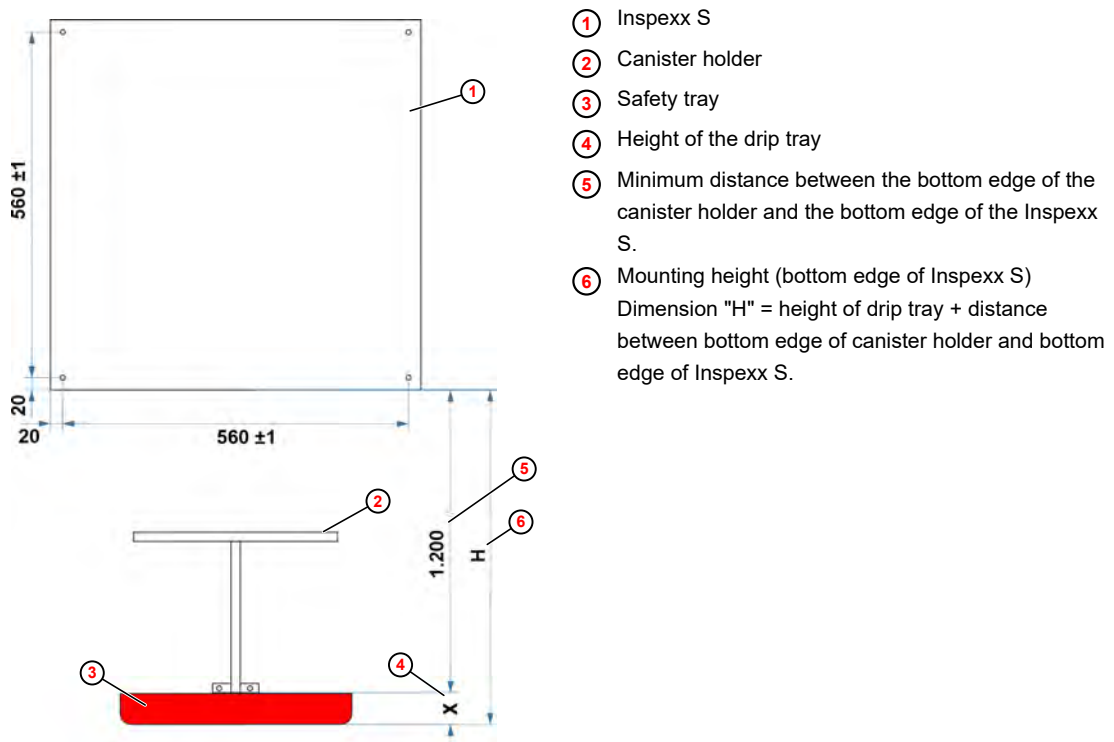

Fig. 4: Wall mounting
1. ▶ Prepare the mounting equipment as specified in Fig. 4 .